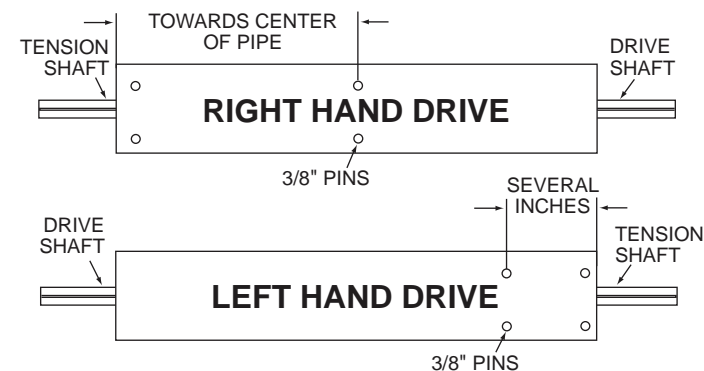

Figure 10
- At tension end of barrel the bearing assembly is pinned to the barrel as shown in Figure 10.